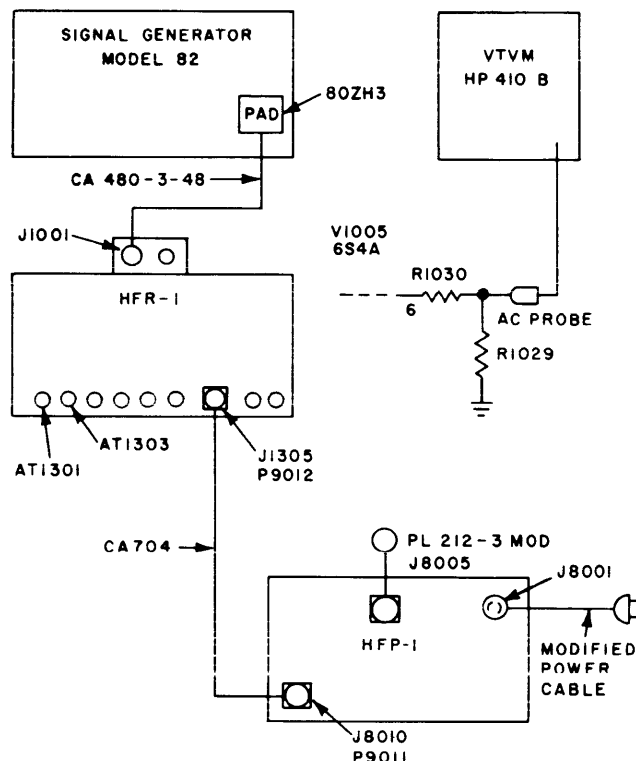

Figure 5-4. Connection Diagram Testing RF Chain
(1) Connect HFR-1 to power supply (HFP-1) as shown in connection diagram figure 5-4.
(2) Set TUNE/SYNC/OPERATE and NOISE SILENCER/OFF/ALIGNMENT SIGNAL control knobs of HFR-1 to TUNE and OFF respectively.
(3) Connect signal generator and VTVM as shown in connection diagram figure 5-4.